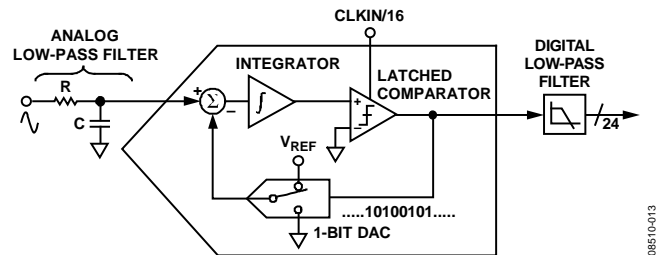
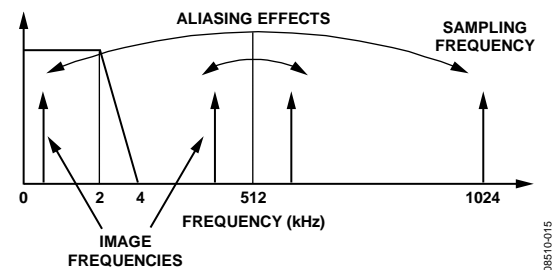

Figure 30. First-Order Σ - Δ ADC
Figure 32. Aliasing Effects
For simplicity, the block diagram in Figure 30 shows a first-order Σ - Δ ADC. The converter is composed of the Σ - Δ modulator and the digital low-pass filter.
Figure 30 also shows an analog low-pass filter (RC) on the input to the ADC. This filter is placed outside the ADE7854/ADE7858/ADE7868/ADE7878, and its role is to prevent aliasing. Aliasing is an artifact of all sampled systems as shown in Figure 32. Aliasing means that frequency components in the input signal to the ADC, which are higher than half the sampling rate of the ADC, appear in the sampled signal at a frequency below half the sampling rate. Frequency components above half the sampling frequency (also known as the Nyquist frequency, that is, 512 kHz) are imaged or folded back down below 512 kHz. This happens with all ADCs regardless of the architecture. In the example shown, only frequencies near the sampling frequency, that is, 1.024 MHz, move into the band of interest for metering, that is, 40 Hz to 2 kHz. To attenuate the high frequency (near 1.024 MHz) noise